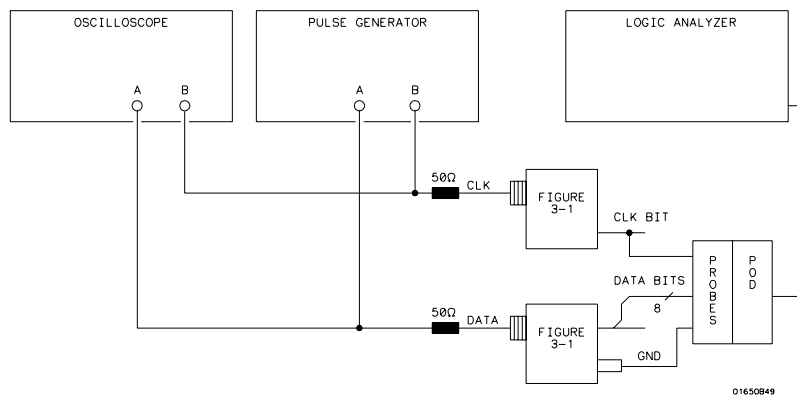

Figure 3-14. Setup for Data Test 3
- Press RUN. The **State Listing** is displayed and lists all 0s for the channels under test, if passed test, as in figure 3-14.